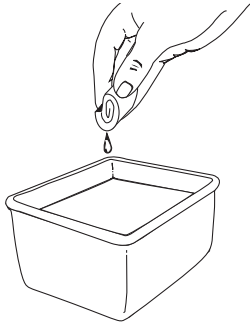

Fig. 20
- Wash the filter in detergent and water (Fig. 20). Rinse the filter thoroughly and allow it to dry.